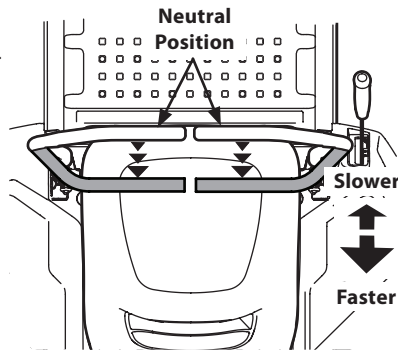

Figure 31
1. Slowly and evenly move both lapbar drive control levers rearward. The tractor will start to move in the reverse direction. See Figure 31.